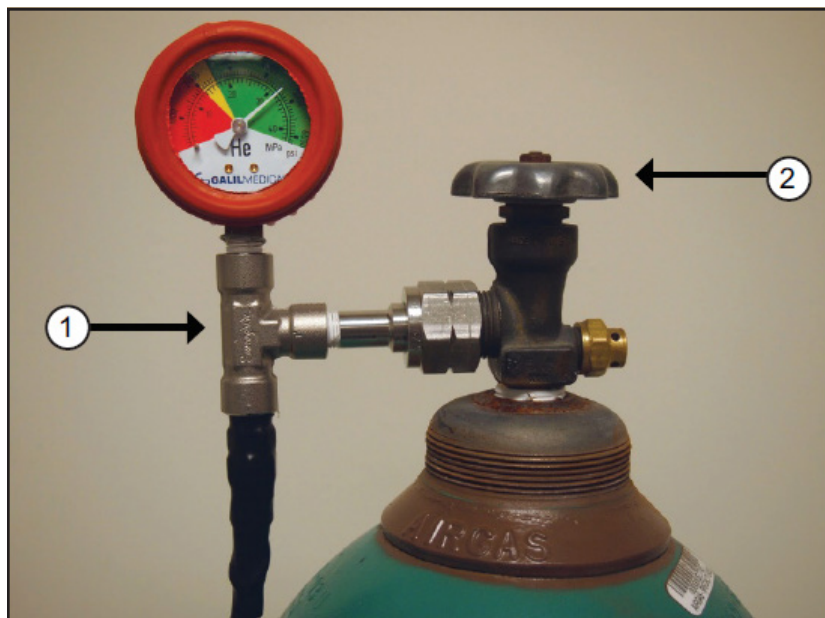

Figure 7. Gas Cylinder Set-up
7. Connect the helium high-pressure gas supply line to the helium cylinder by securing the gauge assembly adapter onto the cylinder connection (Figure 7).